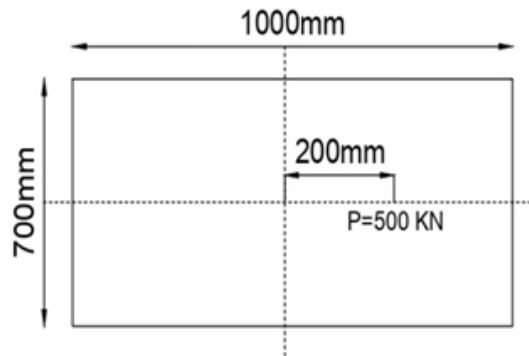

Figure 5.d
- 5d) A column supports a load of 500 kN as shown in figure 5.d. Find the stresses at the corners of the column. (8) CO5